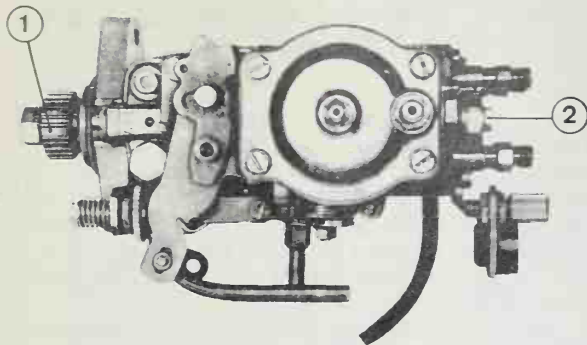

Fig. P1-11—View of Bosch fuel injection pump. Note drive gear master spline (1).
BOSCH PUMP. With number 4 piston in firing position as previously outlined, unscrew plug (2—Fig. P1-11) and install a dial gage to measure pump plunger travel. If pump is separated from engine, install pump noting drive gear master spline (1). Tighten pump retain-